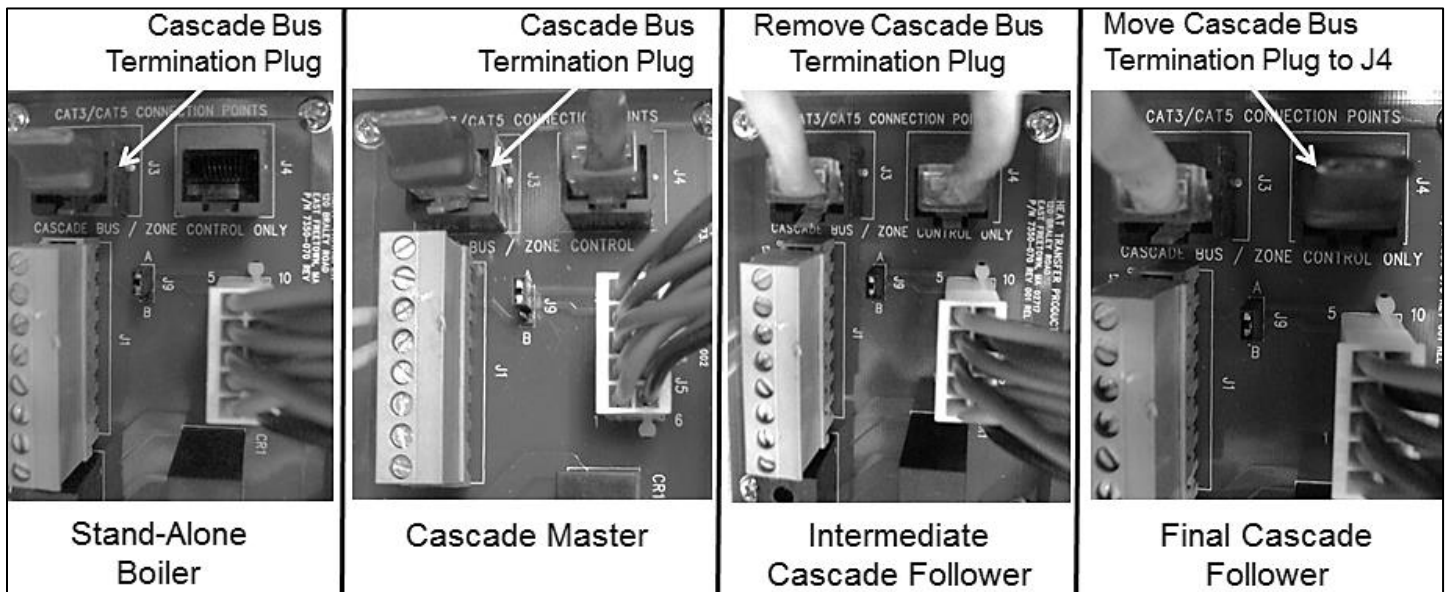

Figure 25 – Cascade Resistor Plug Installation Detail
1. A Cascade Bus Termination Plug has been installed on the customer connection board of this boiler. The purpose of this plug is to stabilize communication between multiple boilers and reduce electrical "noise". See Figures 25 and 26 for Cascade Bus Termination Plug installation detail.